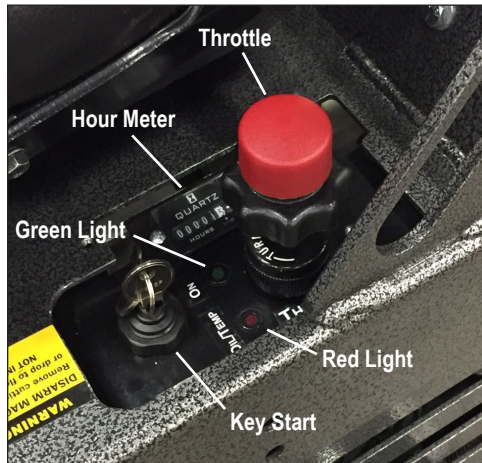

FIG. 9
1. Insert key to the power key start (Figure 9).